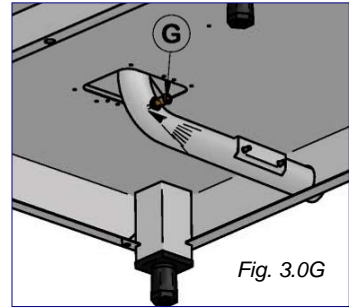

Fig. 3.0G
**3.0G Thermostat system for condensation of discharge steam:** it comprises a solenoid valve controlled by a thermostat whose sensor is housed in contact with the discharge. The solenoid valve, via the injector (G), lets cold water into the drainpipe to condense the steam when a temperature of 90°C is reached, (Fig. 3.0G).